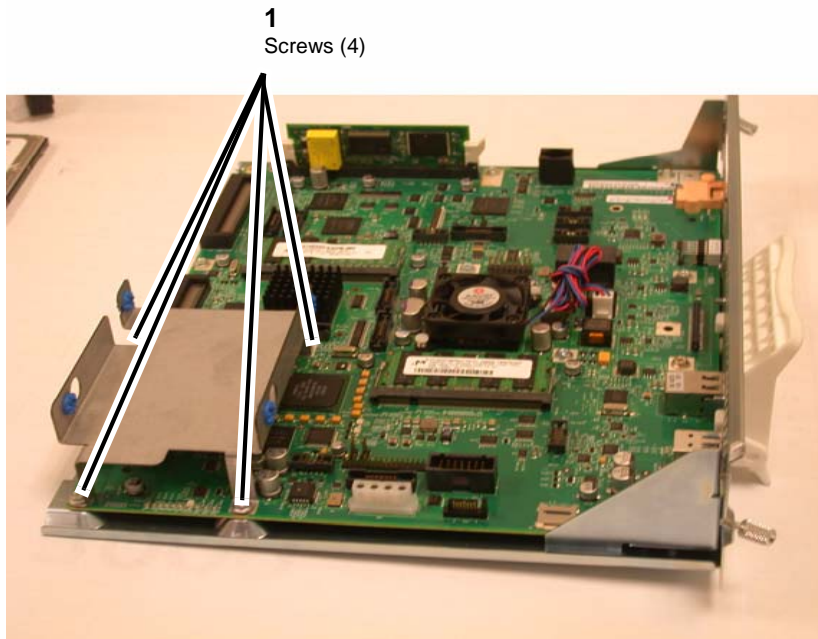

Figure 1 Removing the Disk Drive chassis
6. Remove the Disk Drive chassis (Figure 1).